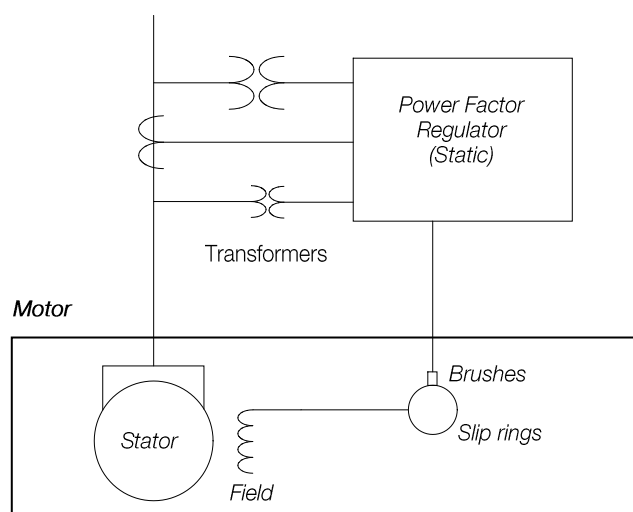

Figure 4.2: General connection diagram (synchronous motor with brushes)
- Figure 4.2 shows the single line connection diagram of a synchronous motor with brushes.